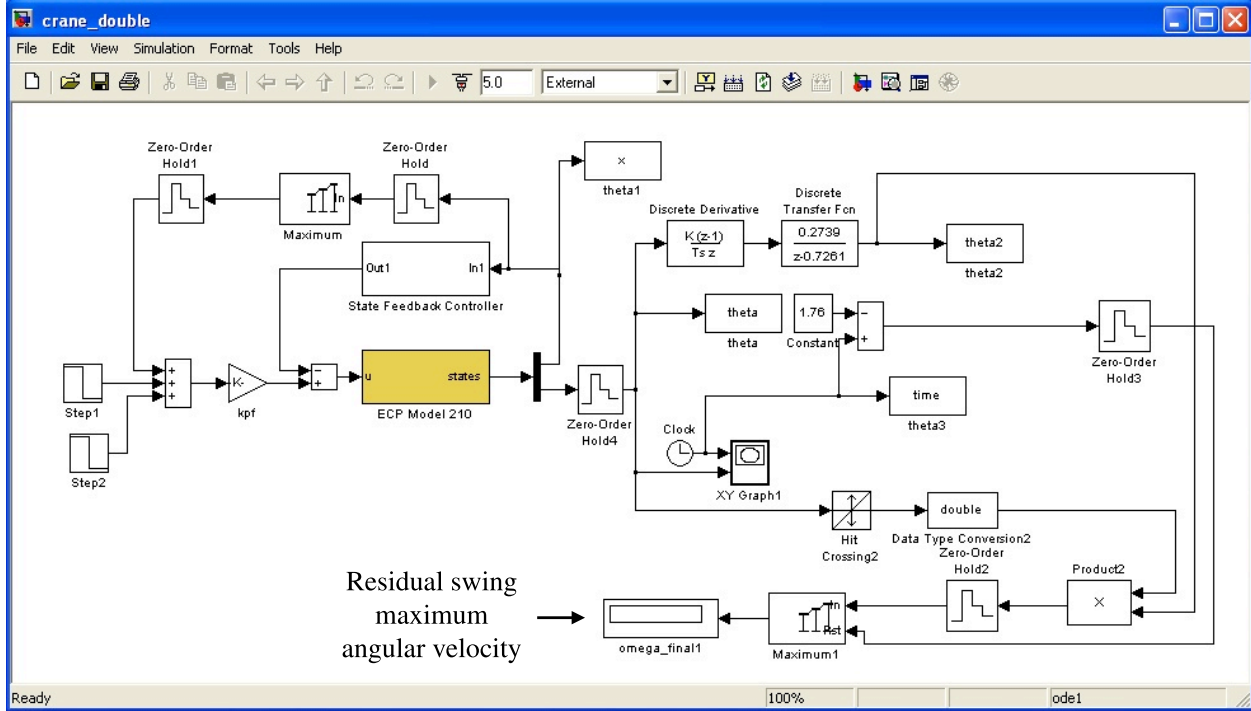

Figure 4. Location of the displayed maximum angular velocity in the crane_double.mdl window. This block is in a similar location in the crane_single.mdl window.
2. Next, run the crane_*[strategy]*.mdl file: push the “connect to target” button and press the “play” button once it turns black. After the “play” button is pushed, the system should do nothing for 1 second, and then Cart 1 will move 4 cm to the left. The maximum angular velocity (in rad/s) of the pendulum’s residual swing will be displayed in the omega_final block (see Figure 4). Record this number in the appropriate location in your Excel data sheet. If you get a “too fast for this hardware” error message after a run, just ignore it, push close, and carry on – the system will usually continue to work properly.